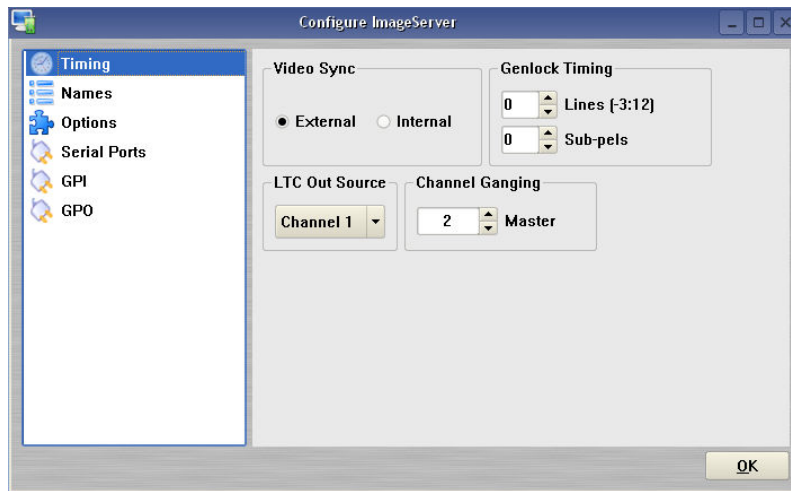

Figure 7 - Timing Configuration Screen
- A. From the main menu bar select **EDIT-> CONFIGURE**. The screen of Figure 7 appears. Select the **TIMING** option.